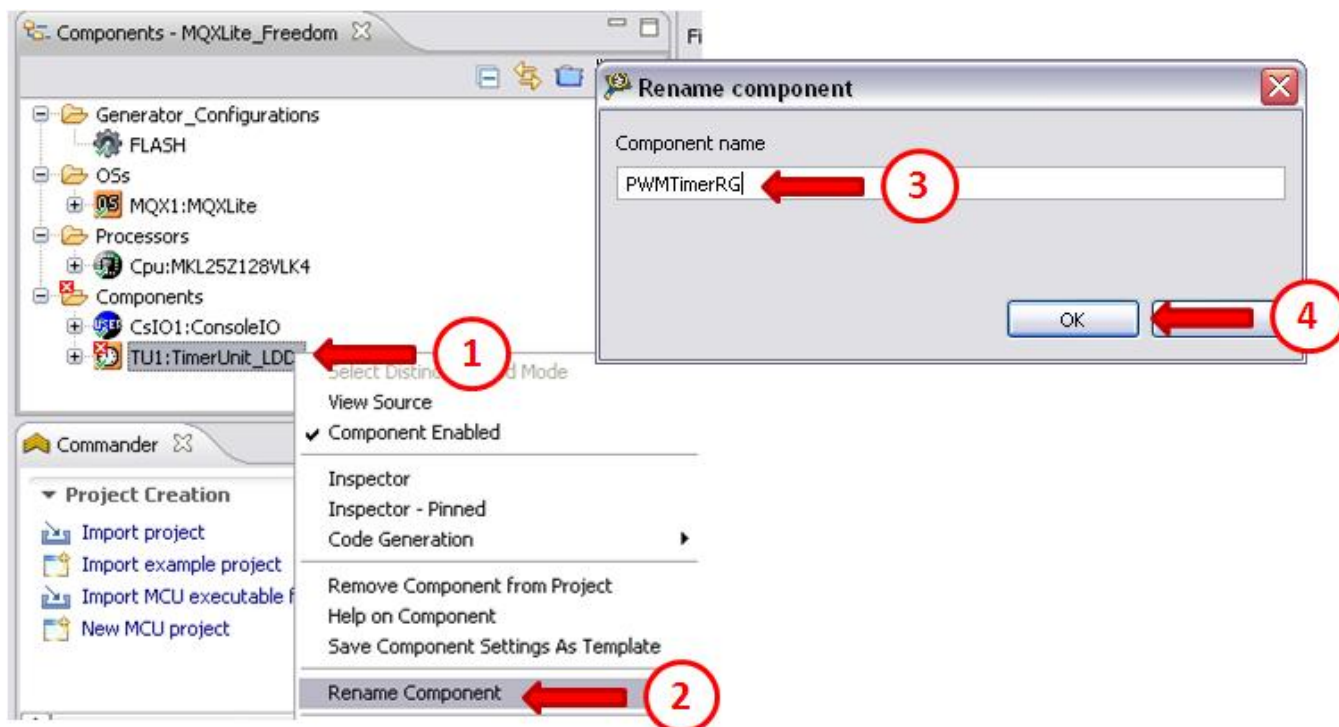

Figure 31. Modify component name
3. It is necessary to change the name to standardize the source code. To modify the name of the component right click on it and then name it PWMTimerRG. This name means that this PWM controls the Red and Green LED inside the RGB LED. See Figure 31.